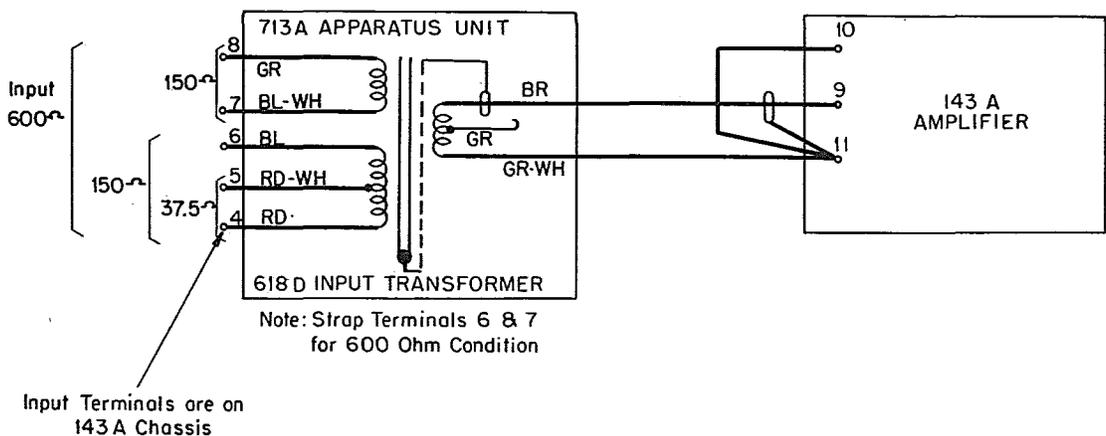

Fig. 5 - 143C Amplifier - Block Diagram
2.23 This amplifier consists of the basic 143A amplifier and a 713A apparatus unit. A block diagram of this amplifier is shown in Fig. 5. The 713A apparatus unit consists of a 618D input transformer that provides a choice of several line level inputs. This transformer is magnetically shielded by a container of high permeability material against electromagnetic pickup, and may be rotated to a position of minimum pickup if exceptionally strong fields are encountered.